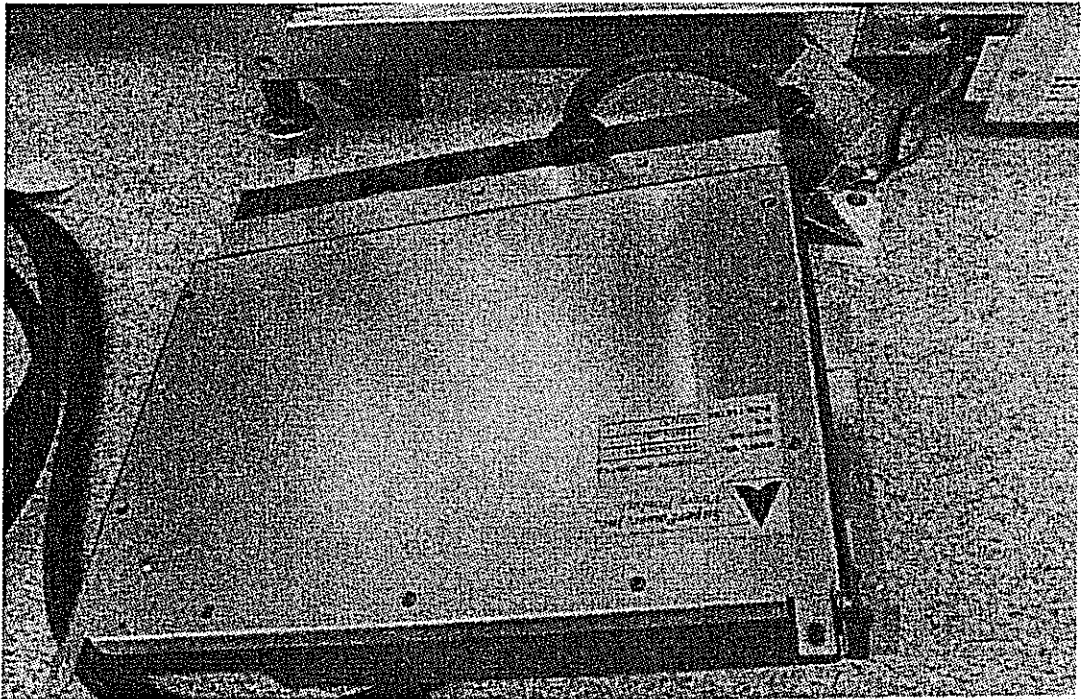

Figure 7-28. Incoming Power Module Back Cover
9. Remove the back cover of the incoming power module by removing the ten countersunk Phillips screws from the cover. Refer to Figure 7-28.